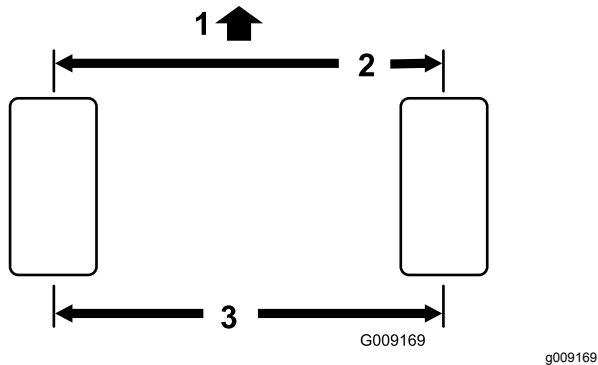

Figure 87
2. Measure the center-to-center distance (at axle height) at the front and rear of the steering tires (Figure 87).